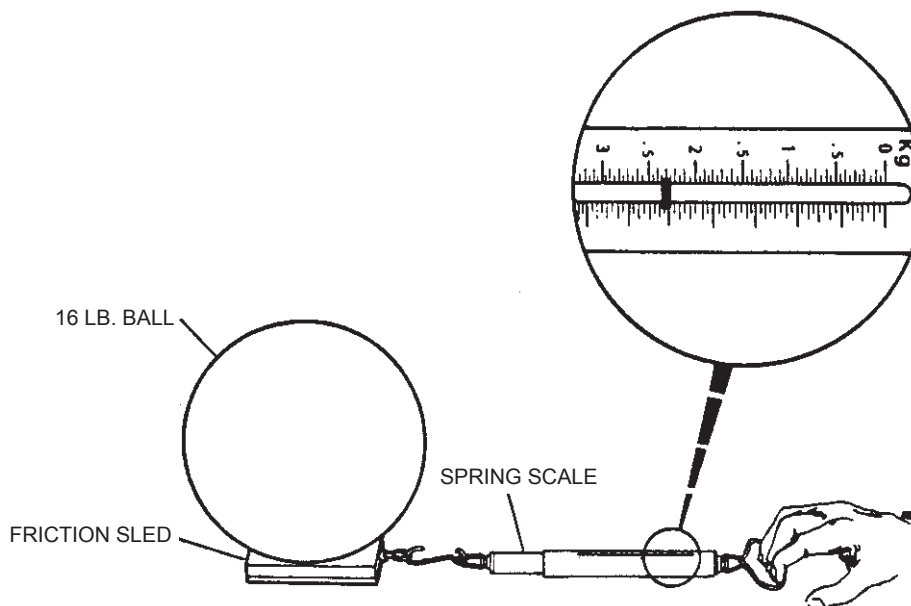

Figure 1
4. Connect the hook of the spring scale in the eye of the friction sled. Refer to *Figure 1*. Apply the pull required on the spring scale to keep the friction sled moving at a slow, steady rate. Observe and record the Kg. reading on the spring scale. (To convert the Kg. reading to grams, multiply it by 1000.)